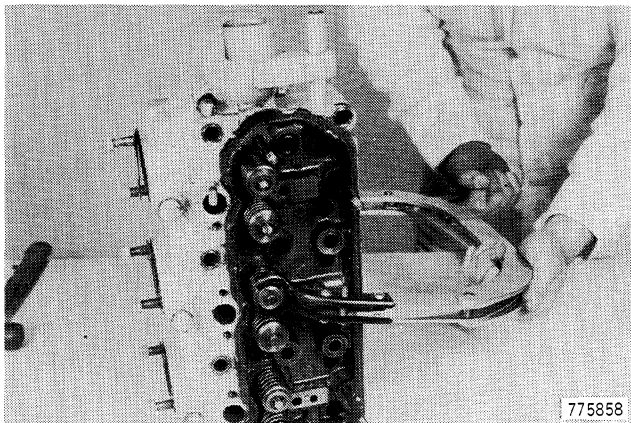

Figure 129
- 7. Release the valve spring compressor tool, Figure 129.